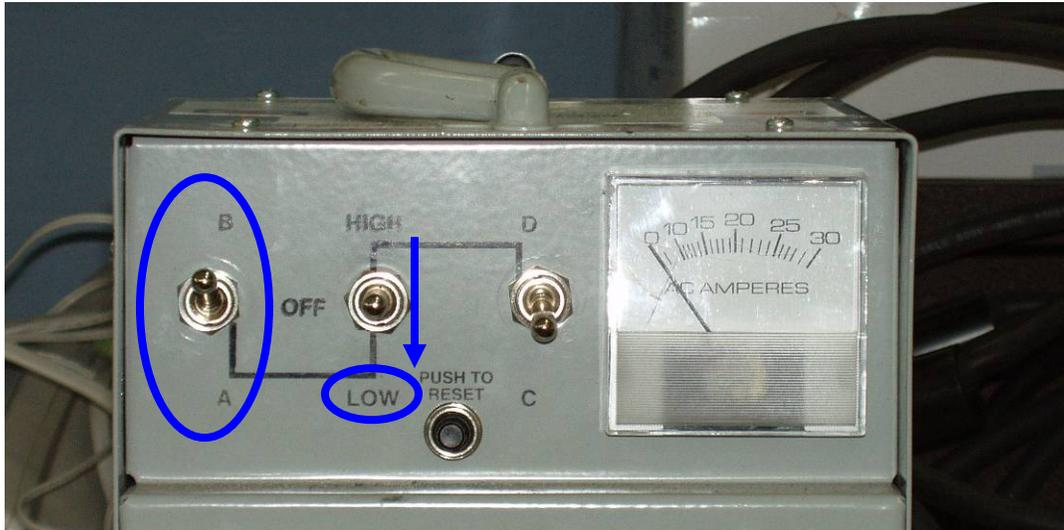

Figure 17- Front Face- "Nibco" Braze Unit Control
- 6.12.9 Set the toggle switch on the control unit to "B". [Figure 17- Front Face- "Nibco" Braze Unit Control]